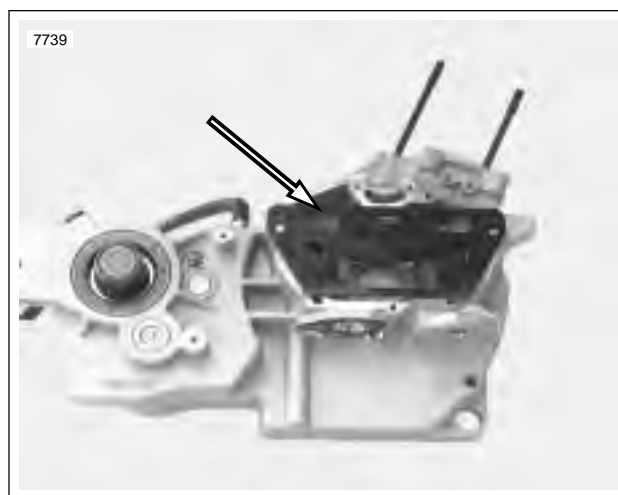

Figure 3-112. Reaming Cam Gear Bushing in Right Crankcase Half Using Camshaft Bushing Reamer Pilot (Part No.B-43988)
2. See Figure 3-112. Position CAMSHAFT BUSHING REAMER PILOT (Part No. B-43988) onto gearcase side of crankcase half; upper right and lower left indexing holes in pilot must be placed over dowels in crankcase half. Insert two bolts (supplied with pilot) through two remaining holes in pilot, and into threaded holes of crankcase half. Tighten bolts securely.